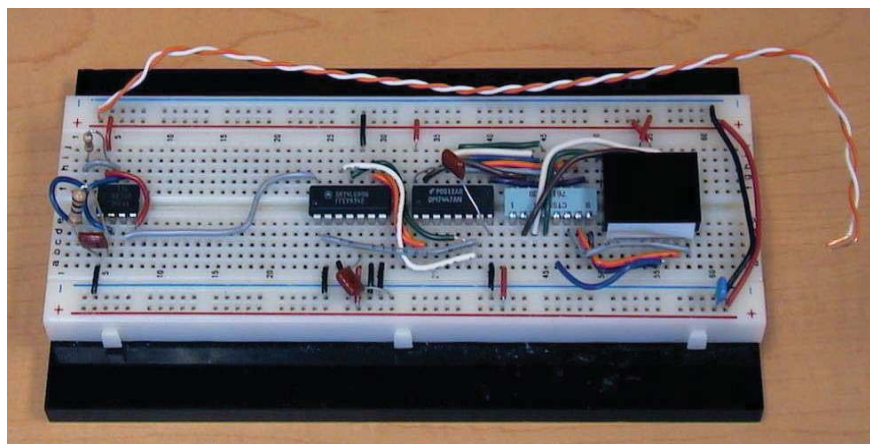
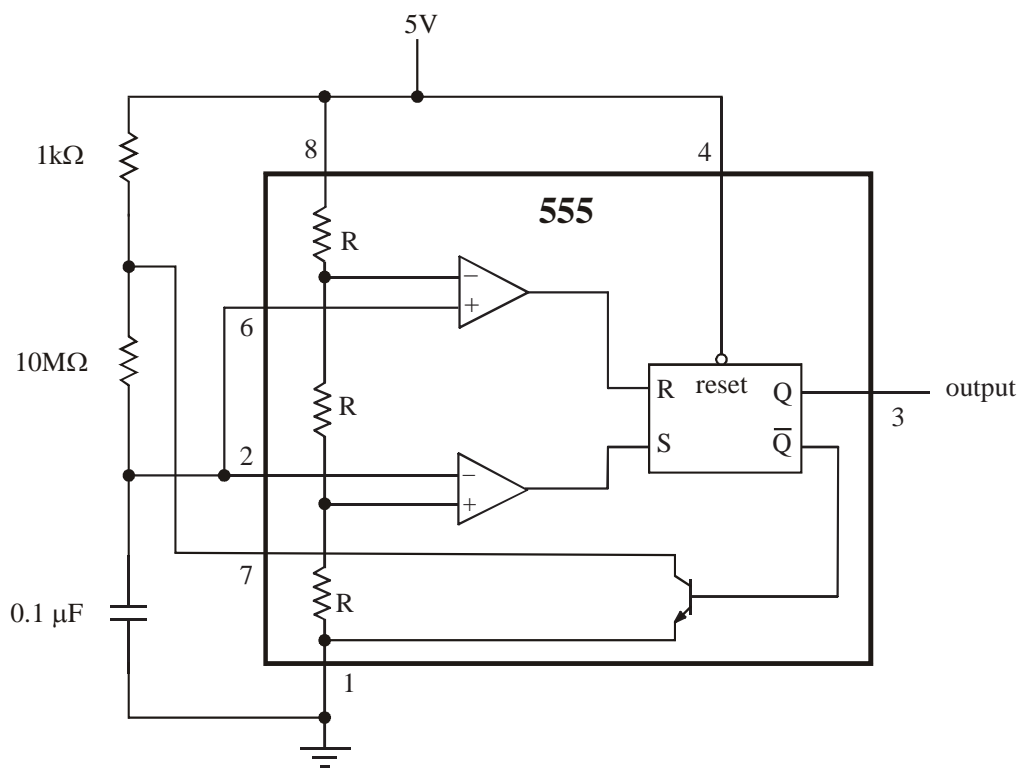
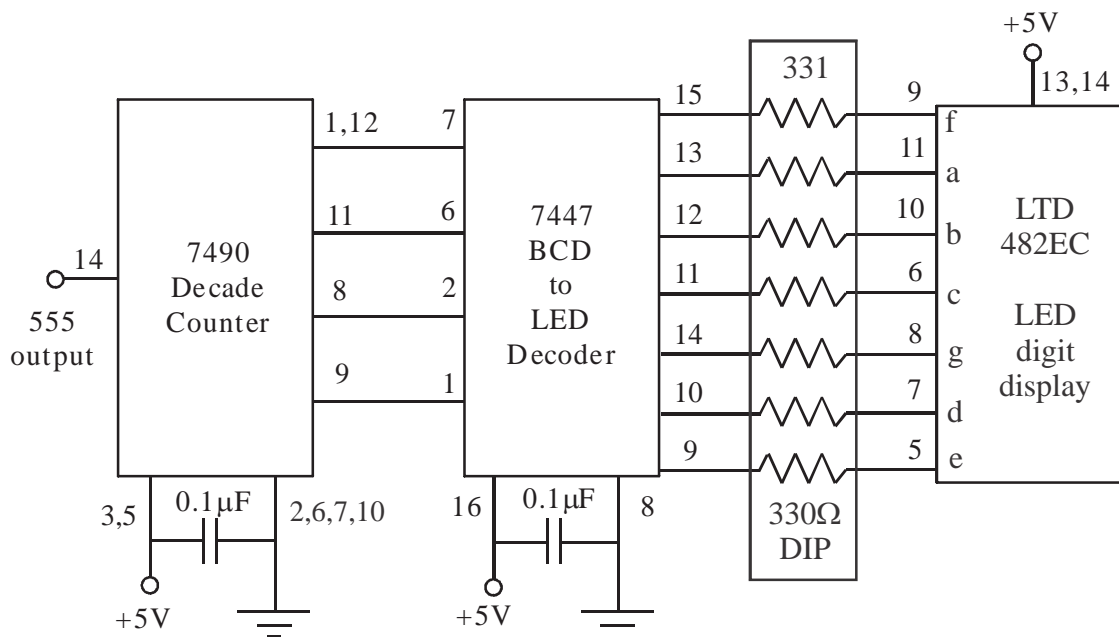
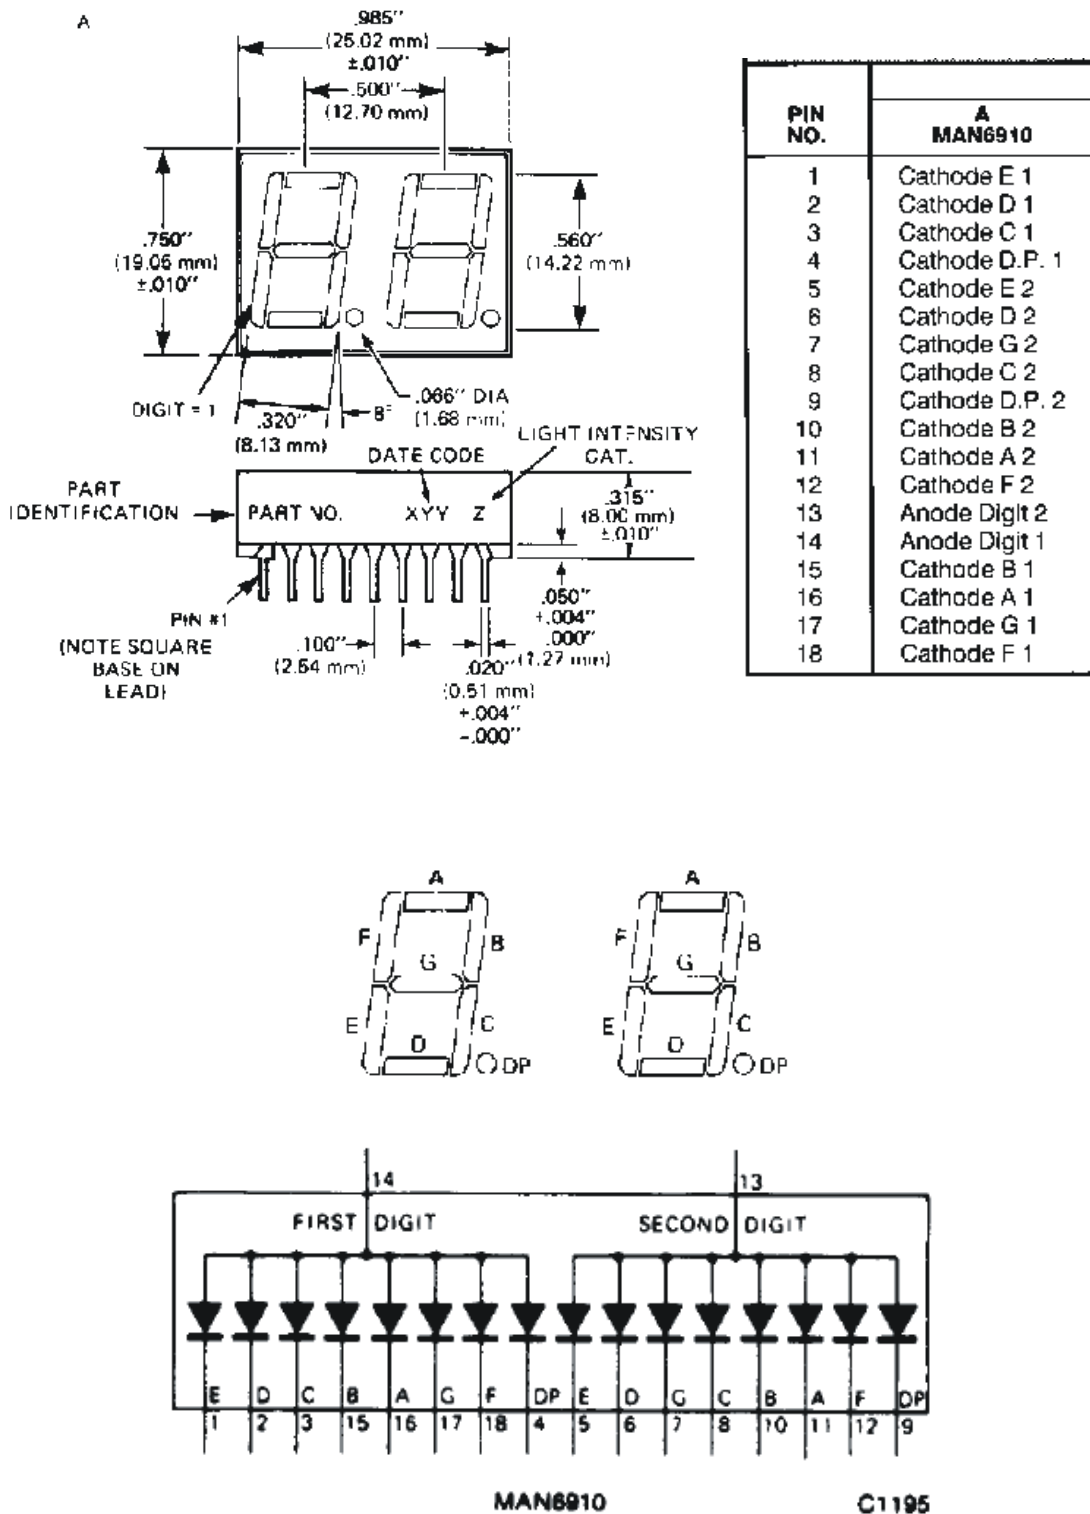

Figure 8.6 Example of Breadboard Wiring
Figure 8.7 555 Timer Circuit
Figure 8.9 Decade Counter Wiring Diagrams
Figure 8.10 MAN6910 Datasheet Information
- (1) Construct the 555 timer circuit shown in Figure 8.7 on the left side of your breadboard (see Figure 8.6). Figure 8.8 shows useful information from the 555 datasheet. Using the resistor and capacitor values shown in Figure 8.7, the output of the circuit will be a pulse train with a frequency of approximately 0.7 Hz, corresponding to a period of approximately 1.4 sec (see Section 6.12.3 in the textbook for more information).
- (2) Verify that your timer circuit is working properly by displaying the output on the oscilloscope **and** by driving an LED. Show the result to your TA before continuing. Leave this circuit on your protoboard as it will be used later.
- (3) In the steps that follow, you will construct the one-decade digital display shown on the right side of Figure 8.6. The detailed wiring diagram is shown in Figure 8.9. **Don't start building the circuit yet!** Read the information below and then follow the steps in the remainder of the procedure (starting on the next page). Each group should have a 7-segment LED display (e.g., MAN6910 or LTD482EC), a 7447, a 7490, and a 555.
When making connections, trim wires to appropriate lengths so they will lay flat against the board when inserted. A “rat’s nest” will not be acceptable. Also, if multiple wire colors are available, be purposeful with your selections (e.g., red for power, green for ground, and other colors for different signal types). Please see the TA’s board and Figure 8.6 as model examples.
Figure 8.10 includes useful reference information from the MAN6910 datasheet. If your display is not one of the model numbers listed in Figure 8.9, you might need to look up the spec sheet for your display to see which circuit in Figure 8.9 to use (by comparing the spec sheet to Figure 8.10 if necessary).
- (4) Wire the top and bottom two rows of the breadboard together as shown in Figure 8.6 so both power (+5V) and ground will be accessible on both sides of the board. This makes it convenient to connect to +5V and ground on either side of a component. It is good practice to leave the power supply off and disconnected while working on the circuits. Only when you are ready for a test should you turn on the power supply, check to make sure the voltage is set to +5V, and then connect to your board.
- (5) Before inserting any components in the board, be sure to lay them all out first to make sure everything will fit. Figure 8.6 shows a suggested board layout.
- (6) Insert the MAN6910 2-digit display on the right side of the board, with the corner labeled MAN6910 at the lower-left side. This label marks pin 1 on the MAN6910.
- (7) Insert the 330 Ω DIP resistor IC next to the display. Connect pins 13 and 14 of the MAN6910 to +5 V (see Figure 8.10 for MAN6910 pin-out information). Nothing more for now! As a test, connect three of the 330 Ω DIP resistors to pins 3, 15, and 16 of the MAN6910, grounding the other ends of the resistors. Double-check your circuit, and then turn on and connect the power supply. Is the displayed digit what you expected? If not, consult with your TA. When you are done with this test, turn off and disconnect the power supply until you are ready for the next test. Also remove all of the resistor connections.
- (8) Insert the 7447 IC next to the 330 Ω DIP resistor IC. Per Figure 8.9, connect the MAN6910 one's (right) digit to the 7447 and connect +5V and ground as shown.
- (9) Activate the 7447 lamp test by attaching 0V to pin 3 and 5 V to pin 4. Turn on and attach the power supply to see if all LED segments come on, as they should.
- (10) Remove the wire from pin 3 and apply +5V to pins 1, 2, 7 and ground to pin 6 of the 7447. Does the display show what you think it should? Turn off and disconnect the power supply before continuing.
- (11) Finish wiring the 7447 and 7490 as shown in Figure 8.9. Refer to the 7490 Reset/Count Truth Table and the description of the reset inputs in Section 8.2. In Figure 8.9, pins 2, 6 and 7 (R0(1), R9(1) and R9(2)) are grounded and pin 3 (R0(2)) is held high, putting the 7490 in count mode. To be able to reset the counter, wire up a normally-open (NO) button to pin 2 (R0(1)) so the signal is low when the button is not pressed (see Question 2 below). When R0(1)=L, the counter will be in count mode, and when R0(1)=H (when the button is pressed), the counter will reset to 0.
- (12) Attach the output of your 555 to the input of the 7490. Double-check your entire circuit! Then turn on and attach the power supply to see if your circuit is working properly. If not, see Section 7.4 in the previous Lab for debugging advice.
- (13) Demonstrate to the TA that your display can increment properly from 0 to 9. At the same time, also demonstrate that you can reset the counter to 0.
- (14) Now disconnect the 555 circuit and wire up a button with a pull-up resistor to the 7490 input instead. Press the button a few times and describe what happens and why in Question 3 below.